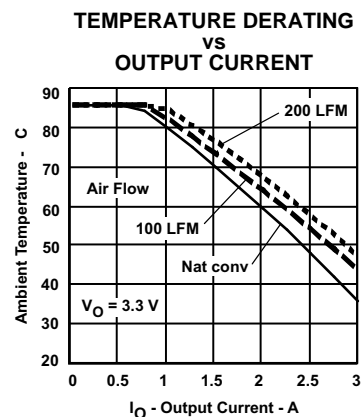
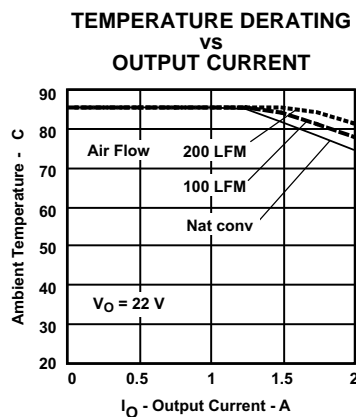

Figure 22.
Figure 26.
- (2) The temperature derating curves represent the conditions at which internal components are at or below the manufacturer's maximum operating temperatures. Derating limits apply to modules soldered directly to a 100 mm x 100 mm, double-sided PCB with 2 oz. copper. Applies to Figure 22 through Figure 26.